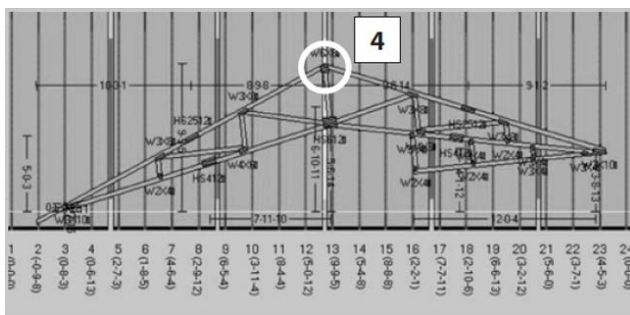

FIGURE 32
- Click a point to rotate the reference point to (Figure 32)